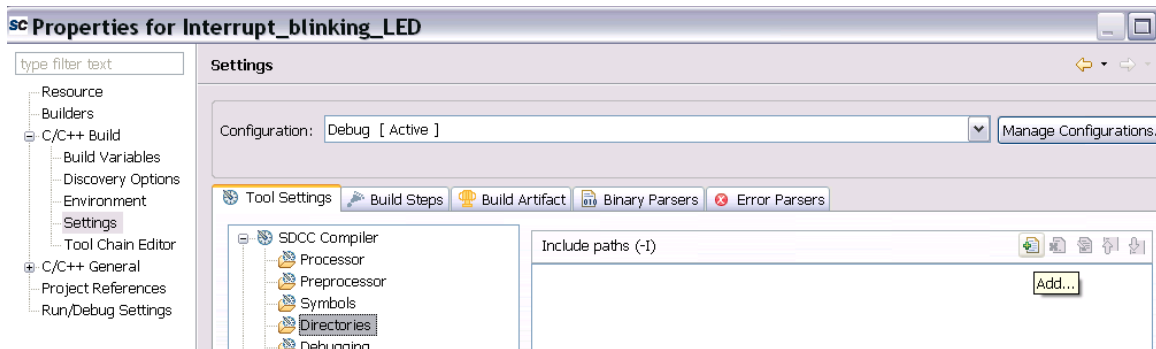

Figure 35 Add Directories
2. Go to the **Directories**, as shown in Figure 35 and click **Add**.